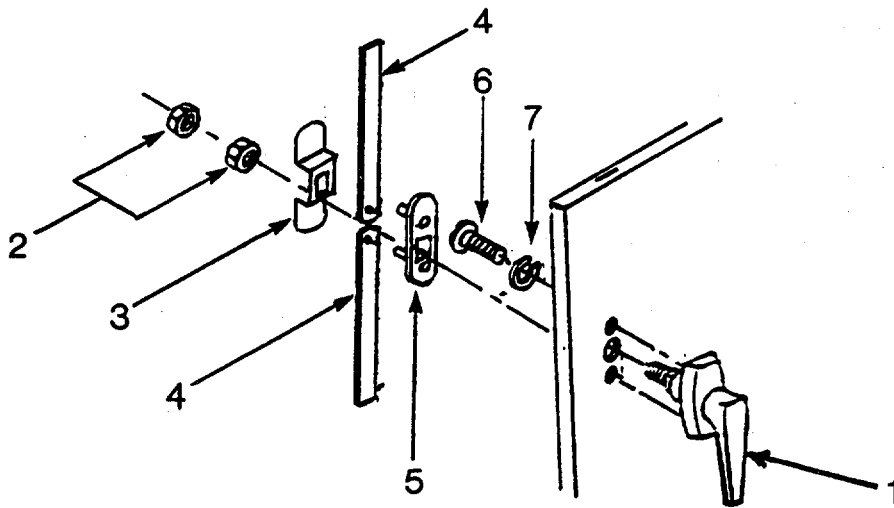

Figure 4-15. Door Handle Assembly
(1) Inspect storage cabinet on curbside of darkroom for dents, cracks, and security of
(2) Inspect storage cabinet welding for breaks or separation of seams.
(3) Inspect drawers for ease of movement and ability to close completely.
(4) Inspect drawer handles for security of installation.
(5) Inspect drawer fasteners for ease of operation and ability to secure drawers.
(6) Inspect door handle assembly for ease of operation and ability to secure doors.
b. Repair. (See Figure 4-15.)
(1) Remove door handle assembly (1) by removing nuts (2) and retainer plate (3).
(2) Remove rods (4) and backing plate (5).
- (3) Remove bolts (6), star washers (7), and door handle assembly (1).
- (4) Install replacement door handle assembly (1) and secure with star washers (7) and bolts (6).
- (5) Install backing plate (5), rods (4), retainer plate (3) and secure with nuts (2).